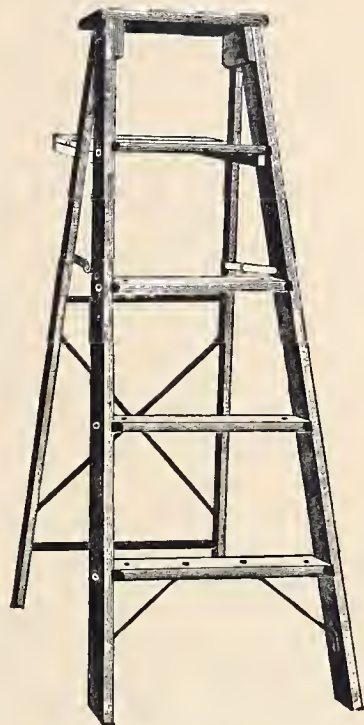

Fig. B 489.
**The Little Giant Step Ladder**, illustrated at *Fig. B 489*, is a very strong ladder, and made of the best stock, and we recommend it for shops, stores, and other places where it must meet with hard usage. This ladder has been designed with a special view to the export trade. It can be packed flat to save measurement, and as it is put together with bolts it can be readily set up. These are made regularly of 4 to 12 feet lengths, but longer ladders can be supplied.